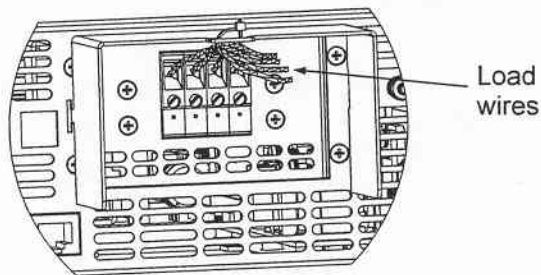

Fig. 3-10: Protective shield and wires assembly
6. Tighten the wires to one of the shield sides using tywrap or equivalent. Refer to Fig.3-10. Ensure that the wire length inside the shield is long enough to provide proper strain relief.